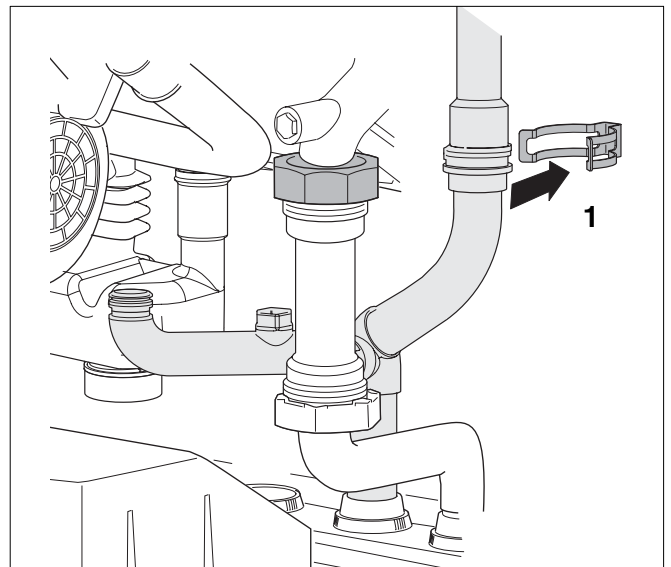

Fig. 131 Loosening the backflow connection and dismantling the tension spring
- Dismantle the tension spring between the supply pipe and the heat exchanger (see fig. 131, pos. 1).